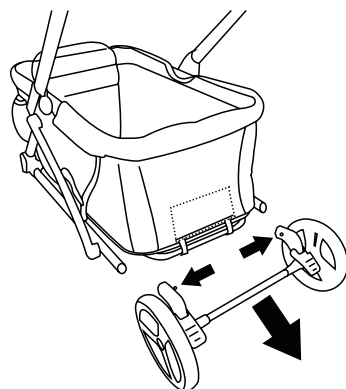

Fig.15b
- If replacing the rear axle, press the pin on each side behind the wheel hub. Pull the rear axle out from the hub (Fig.15b).